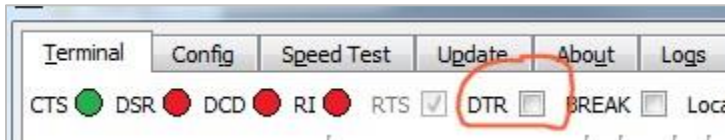

Figure 2: Uncheck DTR box
- In UWTerminal, de-assert DTR by unchecking the DTR box as shown in Figure 2.